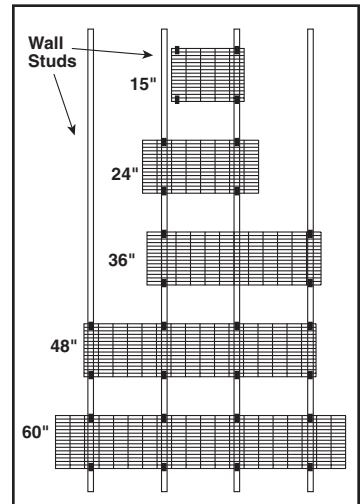
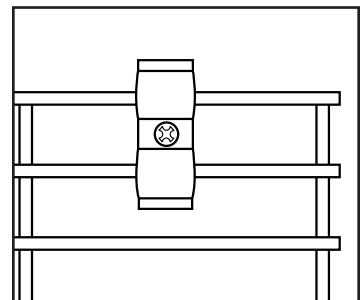

fig. 1
fig. 2
1. Due to the weight of a Panel loaded with accessories and supplies, **we recommend installation by attaching Wall-Mount Brackets to studs** (fig. 1). Use an electronic stud finder to locate the centers of the studs, and draw light vertical lines. If you cannot mount to studs, Wall Anchors are provided.
2. With the horizontal rungs to the front, **position the Panel on the wall making sure it is centered between the studs and level. If mounting only one Panel, the bottom should be 3"-6" above desk surface. If mounting multiple Panels, the bottom of the lower Panel should be 1"-2" above desk surface.** When in the desired position, have someone hold the Panel in place. Using a Wall-Mount Bracket as a guide, **position it between the first and second rungs of the Panel** (fig. 2), center it over the "stud" lines, and mark the center of each hole. From fig. 1, **note that 15", 24", and 36" Panels use four Brackets, and 48" and 60" Panels use eight Brackets.**